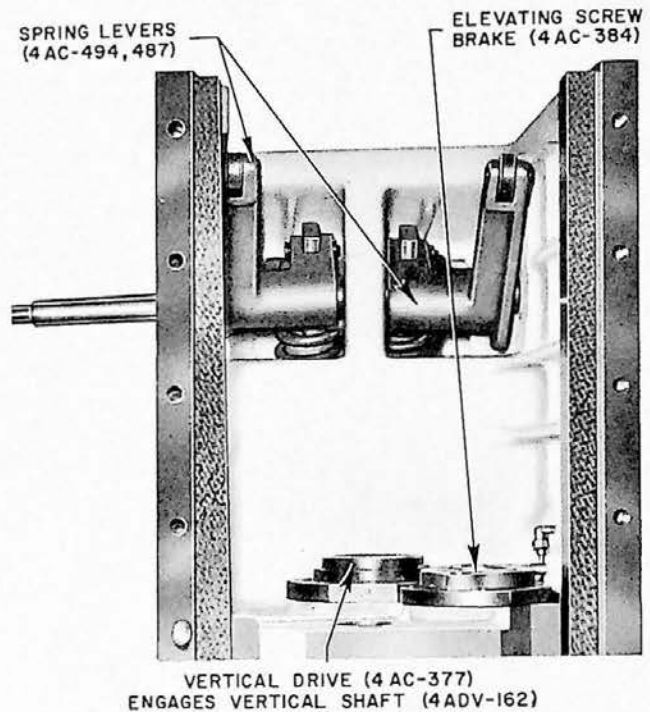

FIGURE 26B
spring tension - as screw is loosened. (When assembling, put tension in spring by turning stud and locking in position with set screw.) After tension is taken off curtain spring, remove screws (444) and curtain clamp (443); this disconnects curtain from column. Release tension in counter-balance springs by easing off nuts (565, 568 or equivalent) under cover (460). Remove screws (415 or 438) and lift off top column cover. On No. 2 machines only it is also necessary to partially drive spring lever shaft (506) out side of column to further release spring levers (487, 494) so they clear vertical head (Figure 26B). When replacing shaft be careful not to damage needle bearings in spring levers.
4. Loosen and remove center gib (451) without changing gib screw setting. Check to see that hoisting sling is properly rigged with equal strain on lines. Mark gibs (so they'll be replaced in their original position) and remove left and right clamp rails (4AC-461, 462 - page 72). Left and right gibs will come off with clamp rails.